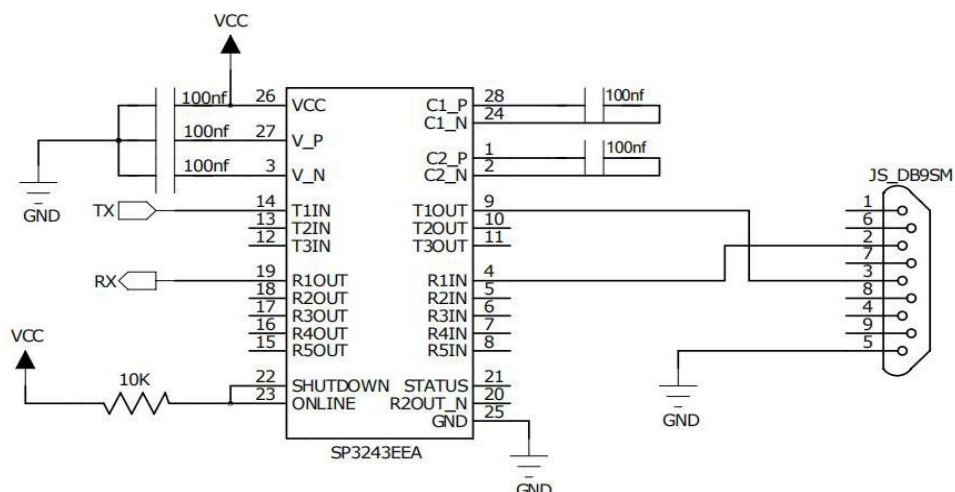

Figure 6-2 F8L10C -00 PC RS232 Connection Reference Circuit
1. The PC is used as the upper computer: the F8L10C-00 is connected to the PC through the RS232 serial port, which requires the use of RS232 chip conversion (e. g., SP3243), as shown in Figure 6-2.